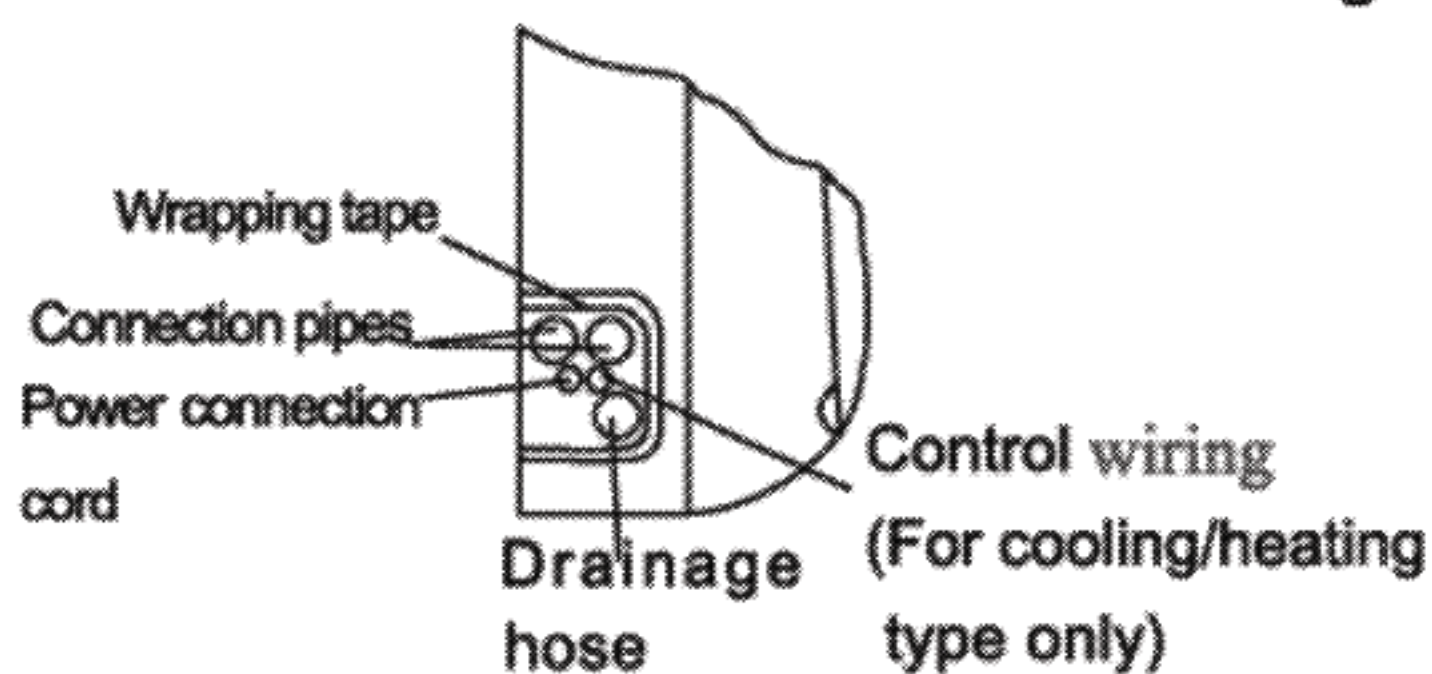

Fig. 5
2. Wrap the piping and wiring and pull them through the cut-off-knockouts hole (Shown in Fig.5).